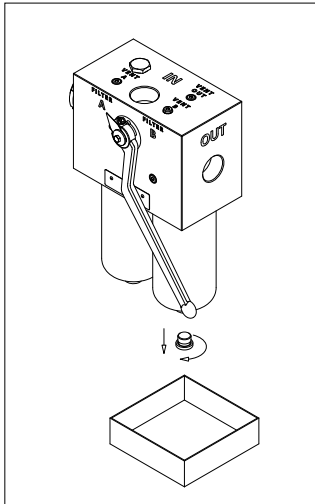

fig. 8
- (Fig. 8) Unscrew the drain plug after placing a vessel to collect the operating fluid